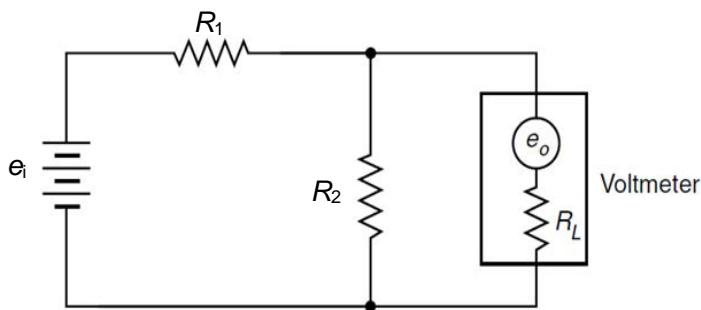

Figure Q3[c]
- [c] Figure Q3[c] shows a simple voltage dividing circuit. If the voltmeter has an internal resistance of R_L derive an expression for the voltage e_o across the resistor R_2 in terms of the other variables given in the figure. Hence, determine the voltage across R_2 if the following data is given: $R_1 = 100 \Omega$, $R_2 = 200 \Omega$, $R_L = 1 \text{ k}\Omega$ and supply voltage $e_i = 12 \text{ V}$.